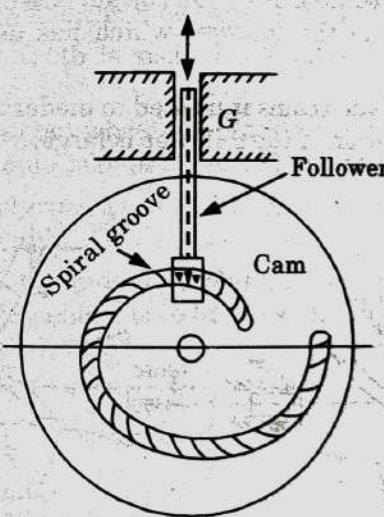

Fig. 5.14.2.
1. A spiral cam is a face in which a groove is cut in the form of a spiral as shown in Fig. 5.14.2.